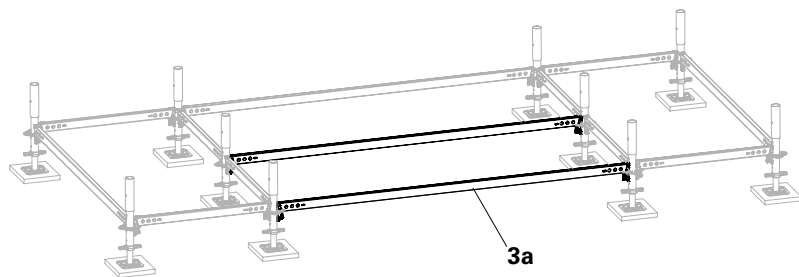

Fig. A1.05
1. Fit two more Horizontal Ledgers UH-2 250 (**3a**) as assembly aids. (Fig. A1.05)
2. The base level is aligned horizontally by accurately adjusting the Adj. Base Plates UJB (**1**). Maximum spindle length 30 cm. (Fig. A1.05)
1. Remove both Horizontal Ledgers UH-2 250 (**3a**) which were installed as assembly aids (see Fig. A1.05 on page 19).